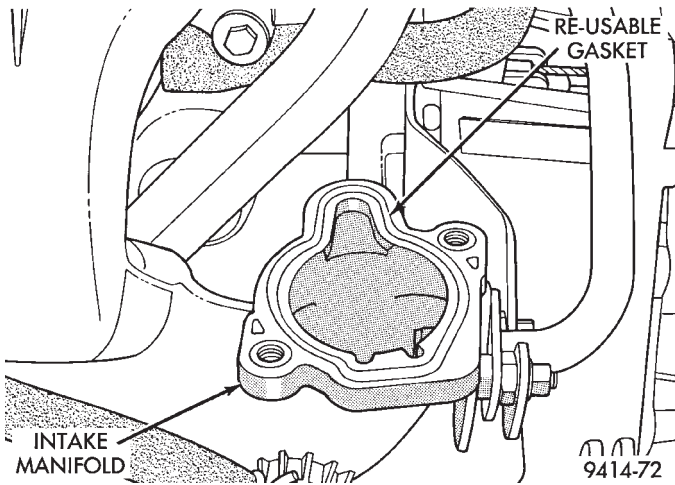

Fig. 75 Re-Usable Throttle Body Gasket
(9) Lift throttle body far enough to remove connectors from the throttle position sensor and idle air control motor. Remove throttle body.
(10) **2.0L** The rubber O-ring gasket on the intake manifold is reusable. Wipe the O-ring clean before installing throttle body (Fig. 75) **2.4L** Requires a new paper gasket.